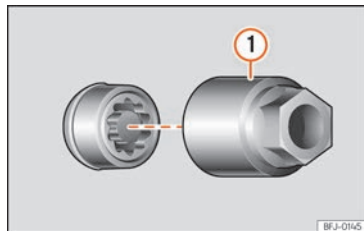

Fig. 35 Anti-theft wheel bolt with cap and adapter.
- Insert the special adapter »» Fig. 35 ① (vehicle tools »» page 41) onto the anti-theft wheel bolt and push it on as far as it will go.